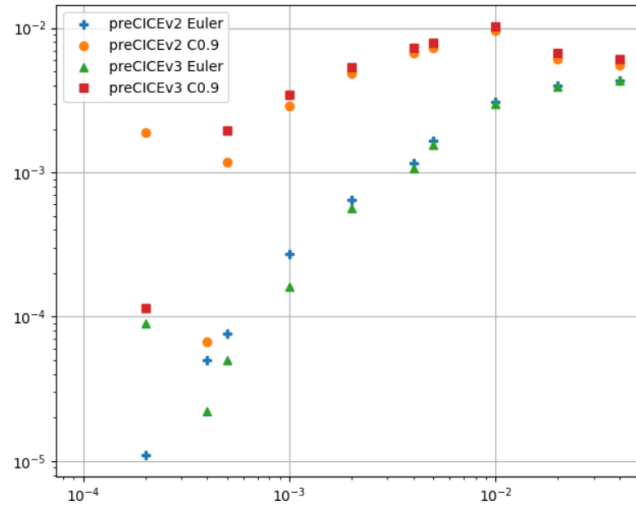

Figure 4 TODO: add title and maybe convergence lines
- Comment on Figure 4. Show how First order convergence seems to be working, but higher order performs poorly. This is due to an error on the openFAOM adapter, which only supports Euler timestepping.